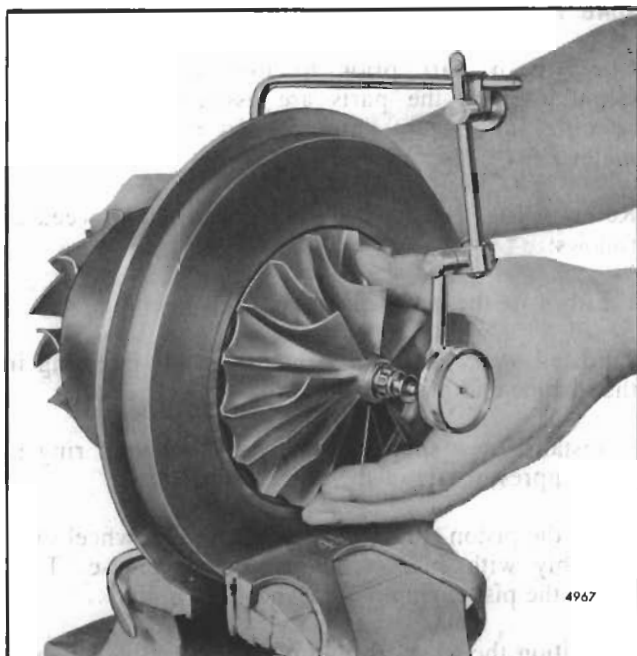

Fig. 10 - Checking Bearing Axial End Play
- a. Clamp the center housing assembly in a bench vise equipped with soft jaws as shown in Fig. 10.
- b. Fasten the dial indicator and magnetic base (J 7872-2) to the center housing so that the indicator tip rests on the end of the rotating shaft on the compressor side (Fig. 10).
18. Position the turbine housing (6) as marked at disassembly against the center housing (27) and secure it in place.
- a. Secure the T18A40 and T18A90 turbine with four clamps (5), four new lockplates (4) and eight bolts (3). Tighten the bolts to 100-110 **lb-in** (11-12 Nm) torque and bend the tabs of the lockplates up against the bolts.
- b. Secure the TV81 turbine housing with the "V" band coupling (28). Tighten the toggle nut as follows: